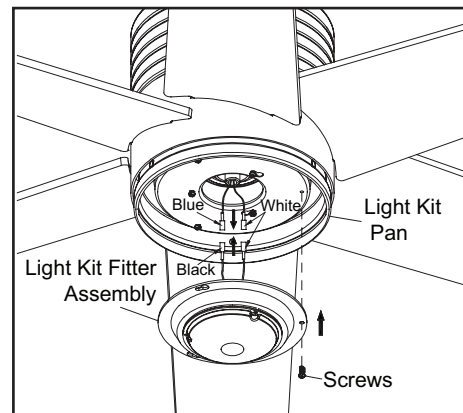

Figure 16
3. Remove one screw from the light kit pan and loosen, but do not remove the other two screws. Connect the wires from the light kit fitter assembly to the wires from the fan motor assembly by connecting the molded adaptor plugs together. Carefully tuck all wires and splices into the switch cap. (Figure 16)
4. Push the light kit fitter assembly up so that the two loosened screw heads fit into the keyhole slots. Turn the light kit fitter assembly clockwise, tightening the screws. Re-install the screw that was removed in step 3 and tighten firmly. (Figure 16)